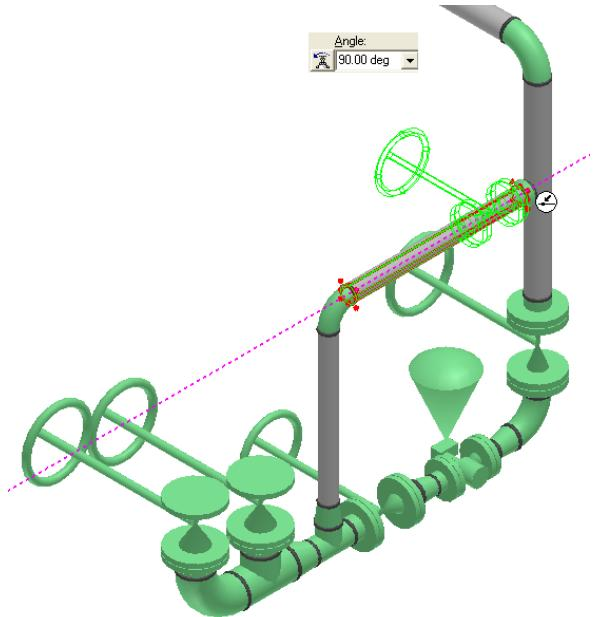

Figure 96: Gate Valve Rotated by 90 Deg
62. An outline of the gate valve and the mating flange will appear in the graphic view. Key in **90 deg** in the **Angle** drop-down list on the **Insert Component** ribbon to rotate the gate valve so that the valve operator faces north, as shown in Figure 96.